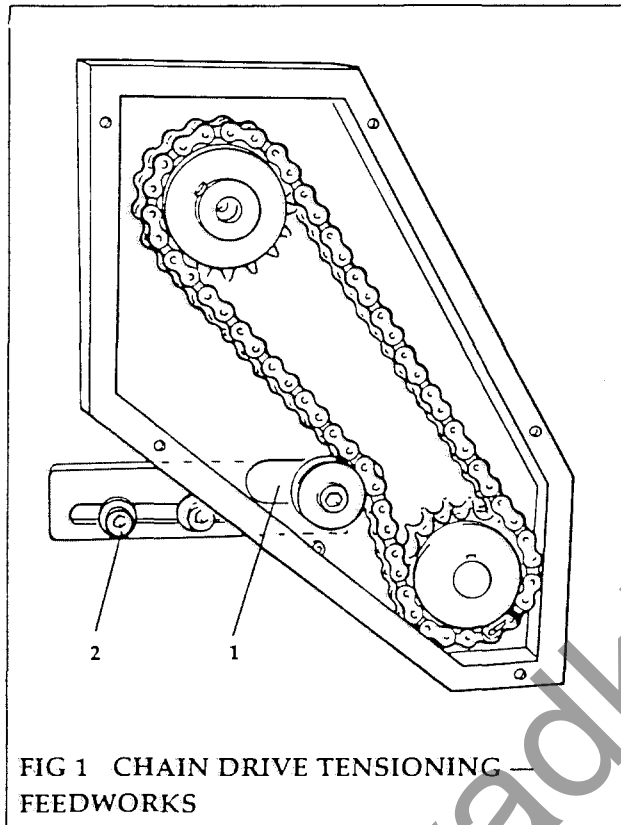

FIG 1 CHAIN DRIVE TENSIONING — FEEDWORKS
#### Chain Drive Tensioning (Fig.1, Fig.2)
- (1) Remove the drive cover.
- (2) Check chain for adjustment or wear. Adjustment is correct if no slack is present in the chain.
- (3) To adjust: Reposition the chain tensioner arm (1), by slackening the two securing screws (2) and sliding the arm with roller or sprocket toward the chain. Take up any slack in the chain. Retighten screws (2) after adjustment, (see Fig 1).